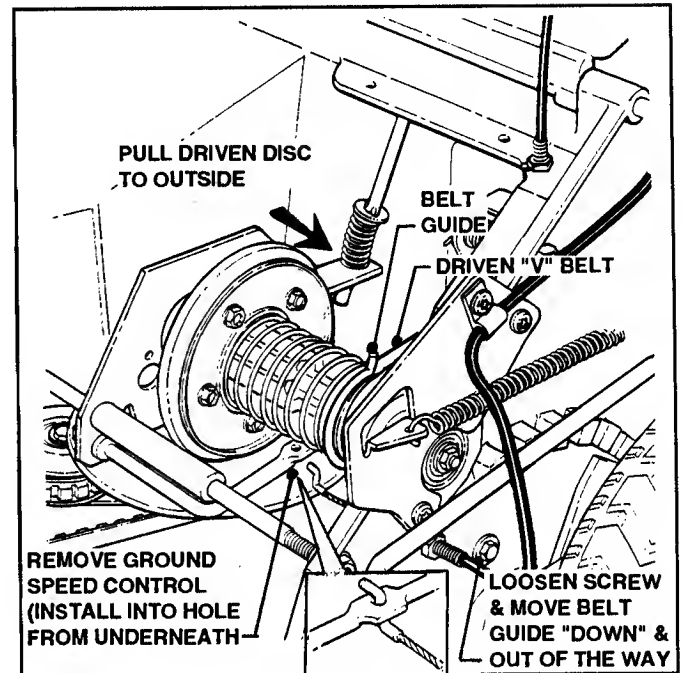

FIGURE 3.13
4. Remove Ground Speed Control Cable as shown in Figure 3.13.
5. Loosen Belt Guide and move "DOWN" and out of the way (refer to Figure 3.13 above).